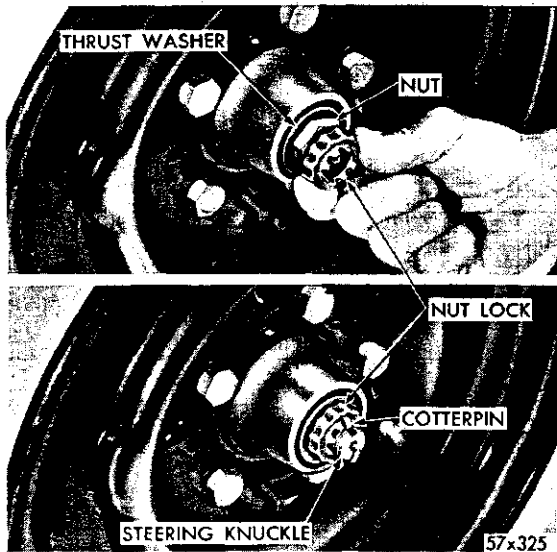

Fig. 19—Front Wheel Bearing Installation
(1) Tighten the wheel bearing adjusting nut to 90 inch-pounds torque while rotating the wheel.
(2) Position the nut lock on the adjusting nut so one pair of the cotterpin slots aligns with the hole in the spindle (Fig. 19).
(3) Back off the adjusting nut and lock assembly to the next slot, and install the cotter pin.
(4) Clean the lubricant cap, coat the inside with wheel bearing lubricant (do not fill) and install the cap.
(5) Install the wheel, tighten the wheel nuts to 65 foot-pounds torque and install the wheel cover.